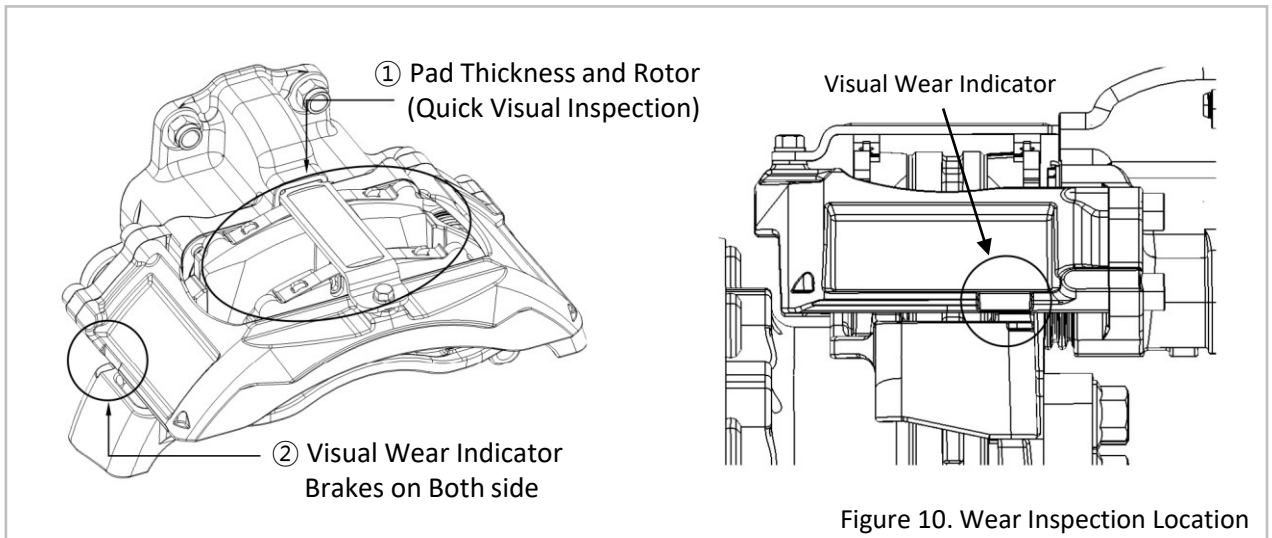
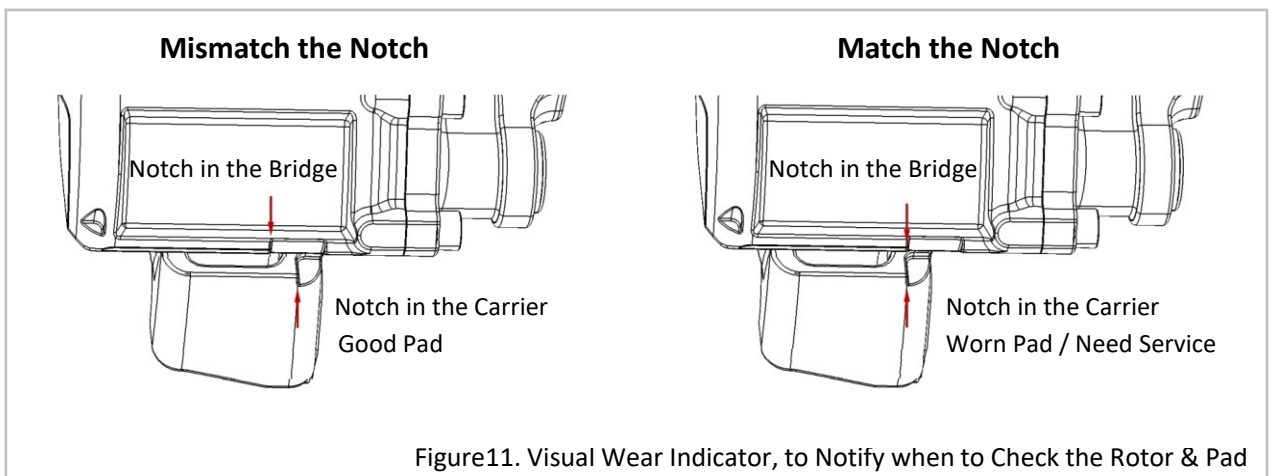

Figure 10. Wear Inspection Location
Figure11. Visual Wear Indicator, to Notify when to Check the Rotor & Pad
- You can visually check the wear of the brake pads and rotor without detaching the wheel (See Figure 10) or ADB measurement tool. (See Page 39. Section 6)
- ① Position yourself over the top of caliper and rotor to inspect visual indicators.
- ② You can check the wear of the pad through Visual Wear Indicator. (See Figure 11)